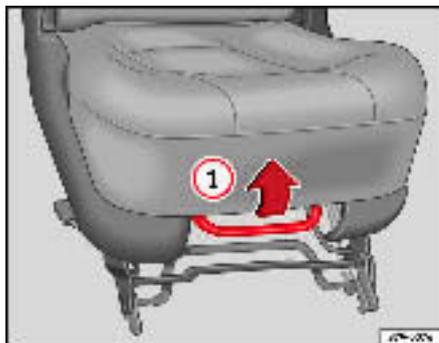

Fig.89 Adjustment of the seat forwards and backwards
- Pull the unlock lever ⇒ fig. 89 upwards, in the direction of the arrow, and hold in this position.